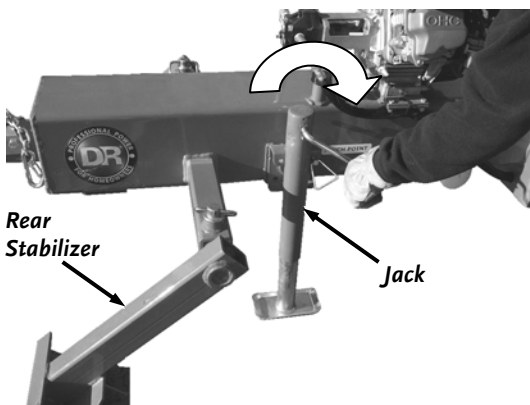

Figure 27
12. Rotate the Jack Handle clockwise until the Rear Stabilizers are lifted off the ground (**Figure 27**).